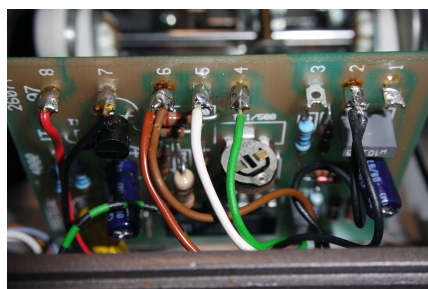

Fig. 1
(Fig. 1)
1. On motor control board resistor R4 (8k2) replace by 390 ohms. (Fig. 1)